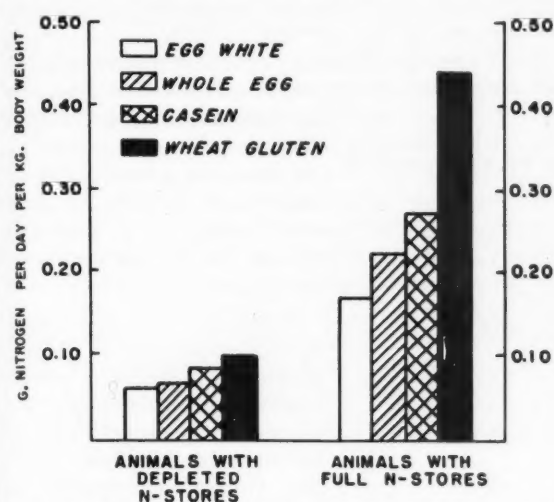

Fig. 1. Minimum protein requirements of adult dogs, based on data of Allison (2).
Whatever the long-term minimum maintenance requirement turns out to be, it must still be recognized as a minimum requirement in an organism depleted of labile protein reserves. Figure 1 shows the protein requirements of the adult dog when in a depleted state and when well nourished. These were determined by Allison (2). The requirements differ, depending on the kind of protein, being lowest for egg and highest for wheat. Note, however, that it takes about three times as much egg protein to keep a dog in a state of full nutrition as in a depleted state. In egg, all the essential amino acids, including lysine, are